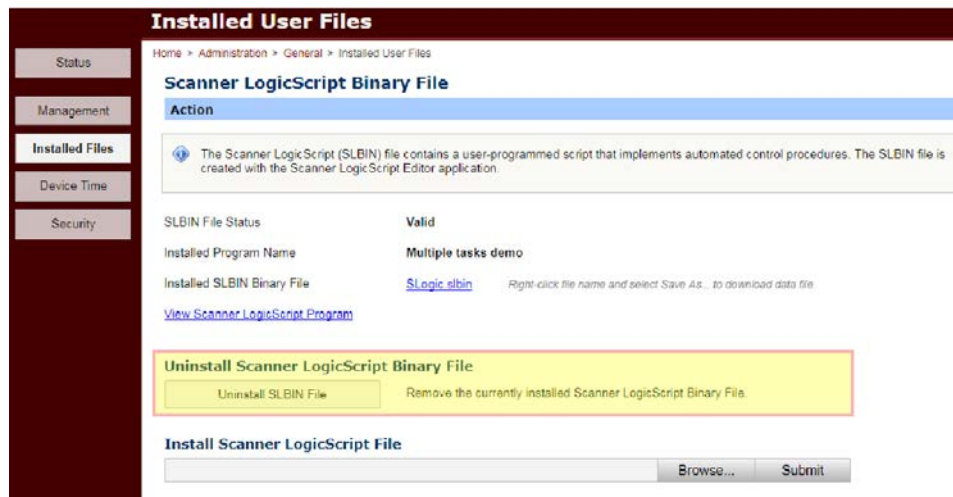

Figure 3.16—Uninstall Scanner Logic Script Binary File
3. In the *Scanner Logic Script Binary File* section, locate the “Uninstall Scanner Logic Script Binary File” header (*Figure 3.16*).